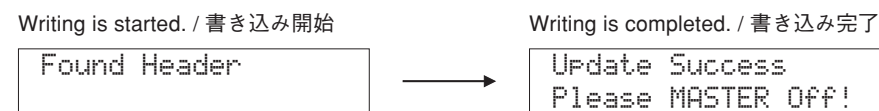

Fig. 18
8. Press the "PLAY" key of the DVD/CD player. Then writing of the firmware is started. (Fig. 18)
9. When writing of the firmware is completed, <Update Success Please MASTER Off!> is displayed. (Fig. 18)
9. ファームウェアの書き込み完了後、<Update Success Please MASTER Off!>が表示されます。(Fig.18)